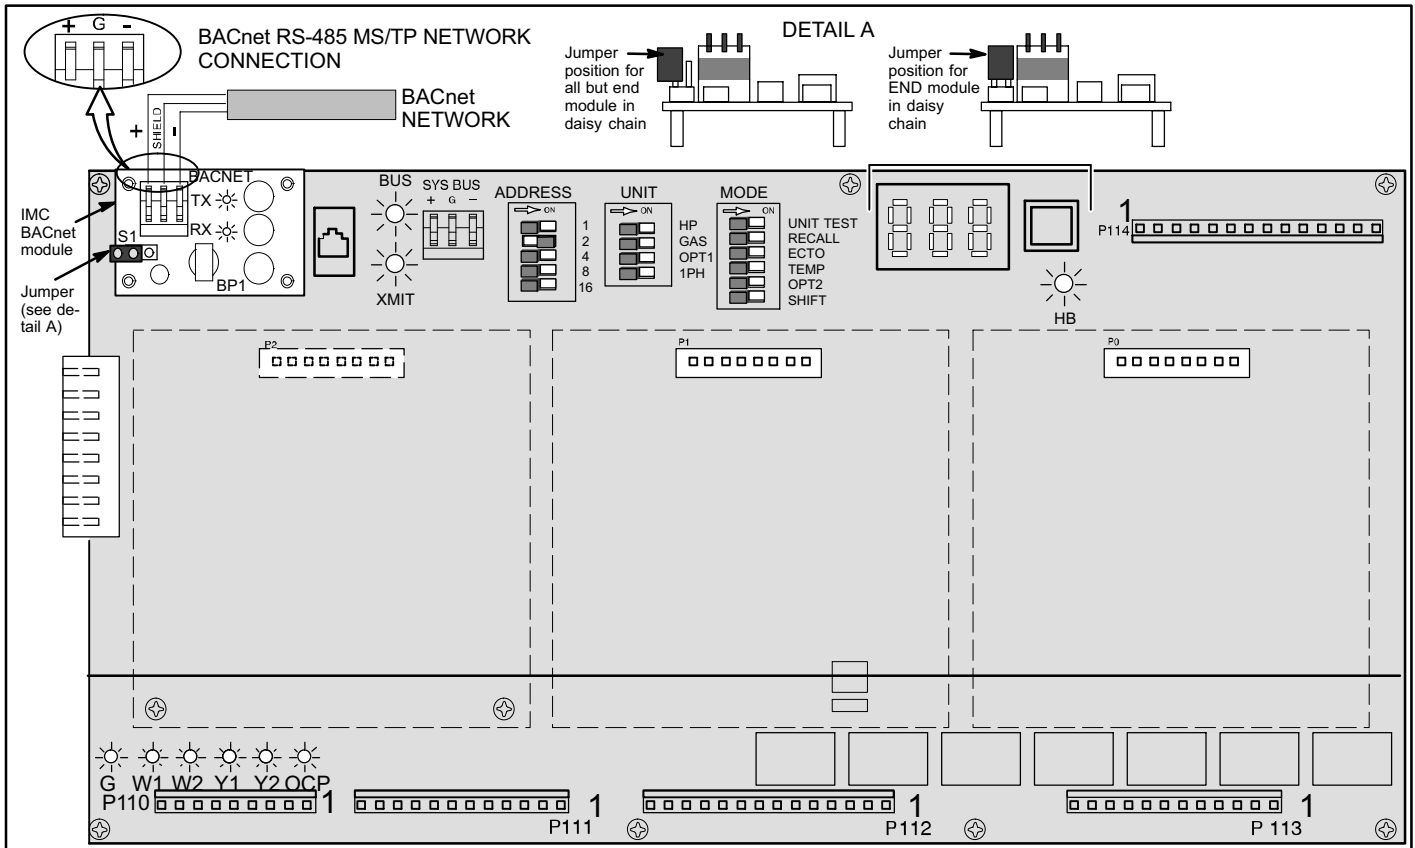
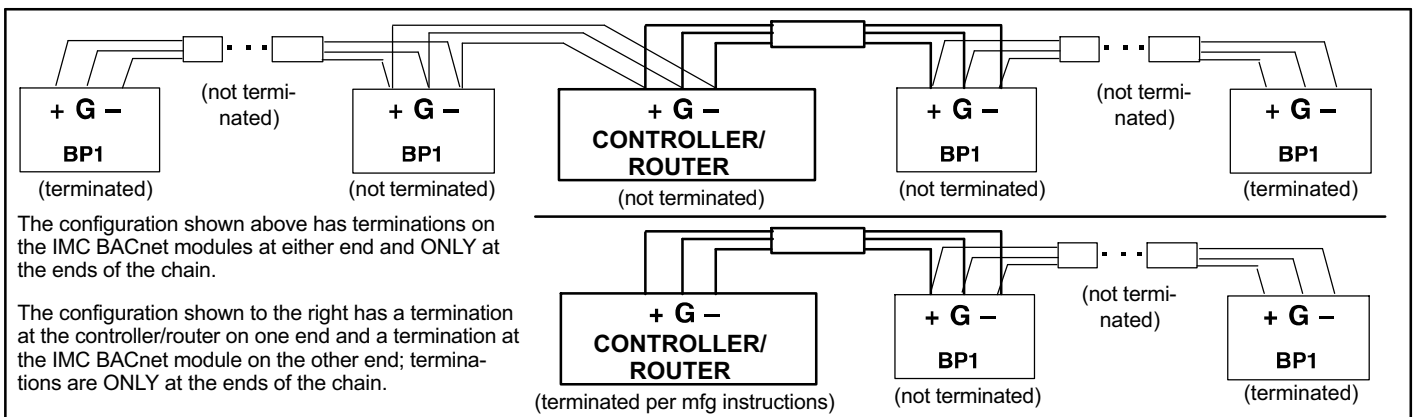

Figure 1. IMC BACnet® Module (BP1)
Figure 2. Terminating ends of daisy-chained networks
When the IMC BACnet® module is at the end of a daisy chain, connect the jumper across the pins of S1 for bus termination (see figure 1, Detail A). Every BACnet® MS/TP chain must have a termination at each end of the chain (exactly two terminations; see figure 2).
3. Install the IMC BACnet module (see BP1 in figure 1) onto the IMC connector P4 in the upper left corner of the IMC. Be careful not to bend connection pins or damage any parts on the module or IMC board.
4. Connect the BACnet network wiring to the BACnet module as shown in figure 1.
5. No adjustment is necessary to the IMC BACnet module unless the module is at the end of a daisy-chained configuration. In that case, move the jumper across the S1 pins (see figure 1, detail A).